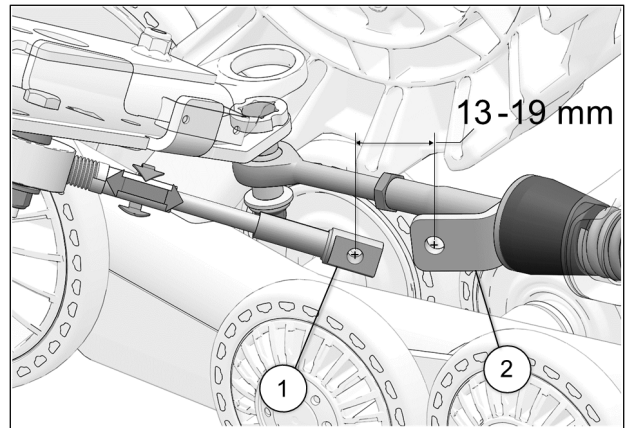

Fig. 23
16. Turn the handlebars to its maximum point of travel on the left. While maintaining pressure on the handlebars, turn threaded rod to adjust length of cable. See Fig. 23
17. Position cable end hole (1), 13-19 mm short of support plate (2) mounting hole. See Fig. 23